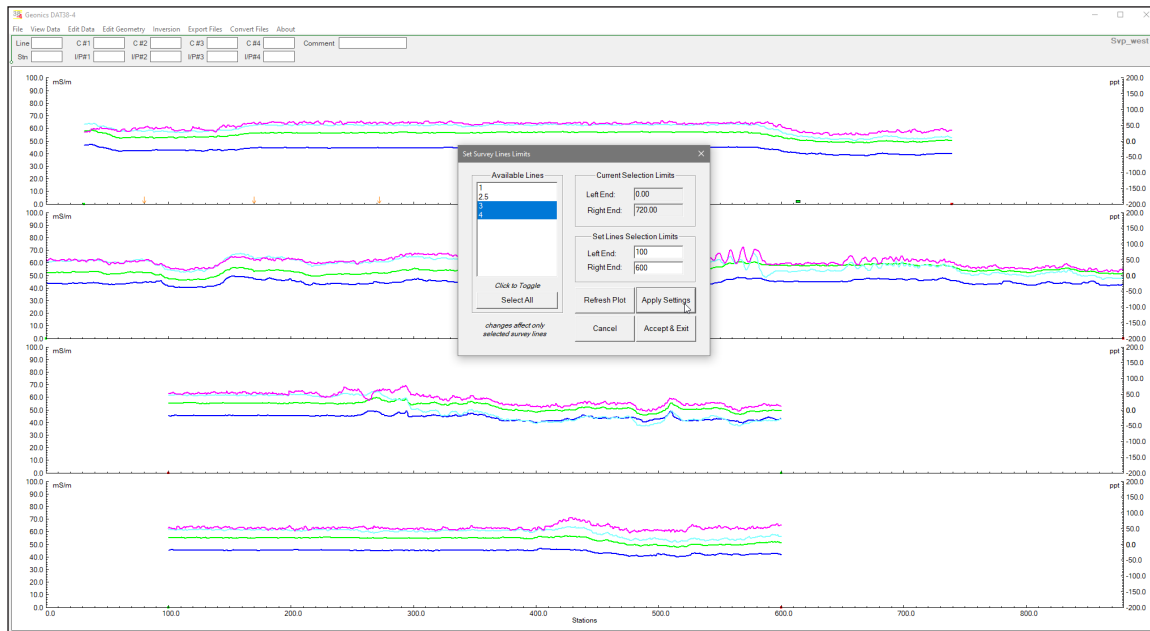

Figure 5.3 Set Line Limits dialog with Lines 3 and 4 repositioned to 100 to 600 (compare with Figure 5.1).
- Click **Apply Settings** to adjust the limits. The graphic displays updates in real time (Figure 5.3).